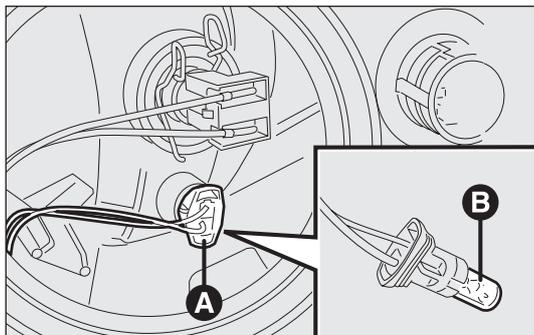

fig. 181
- remove snap-fitted bulb holder A-fig. 181, remove the bulb B and replace it;
- refit the snap-fitted bulb holder A-fig. 181;